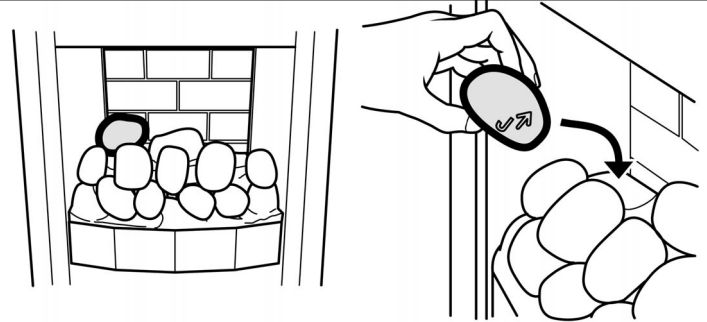

Figure 30.
**13.** Hold pebble 'J' upright with the arrow pointing to the top. Place pebble 'J' on top of the base pebble rear. (See figure 30)